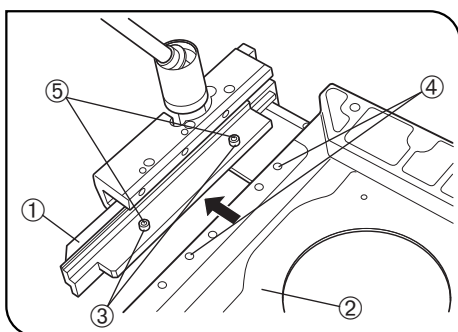

Fig. 86
(Figs. 86 to 88)
1. Invert the mechanical stage upside down ① Also invert the IX2-SP or IX2-KSP plain stage ② and place it on top of the inverted mechanical stage. (Fig. 86)
2. Align the two mounting holes ③ on the mechanical stage with the mounting holes ④ on the plain stage. Insert the two clamping screws ⑤ and tighten using the Allen screwdriver.